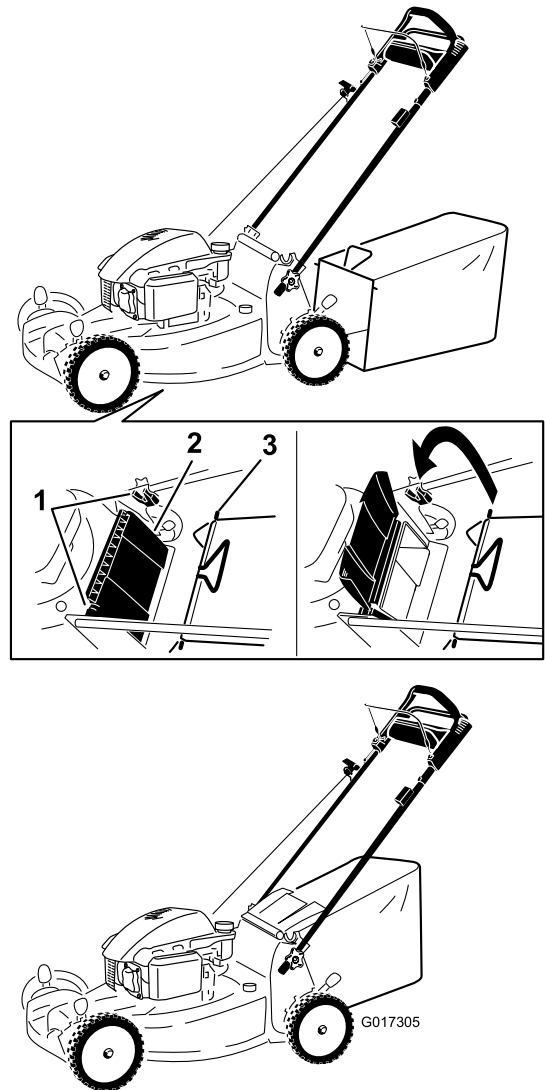

Figure 20
1. Raise and hold up the rear deflector (Figure 20).
2. Install the grass bag, ensuring that the pins on the bag rest in the notches on the handle (Figure 20).